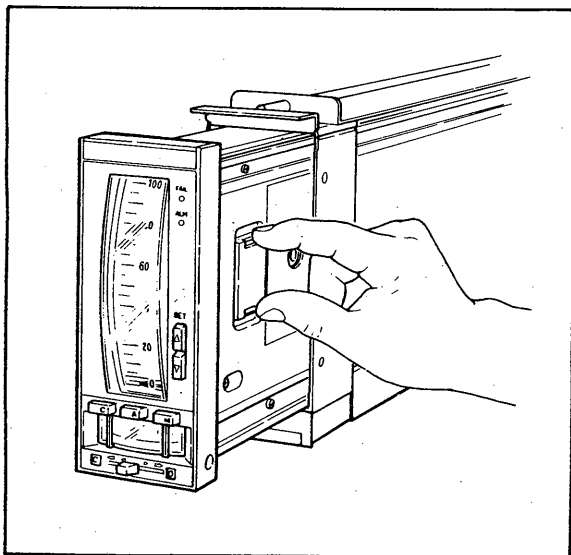

Figure 6-13. Replacing the Data-Protect Battery.
- (2) Insert a new battery together with its case, and re-place the cover. (See Figure 6-13.)
- (3) Ascertain that the front-panel ALM lamp is not flashing.